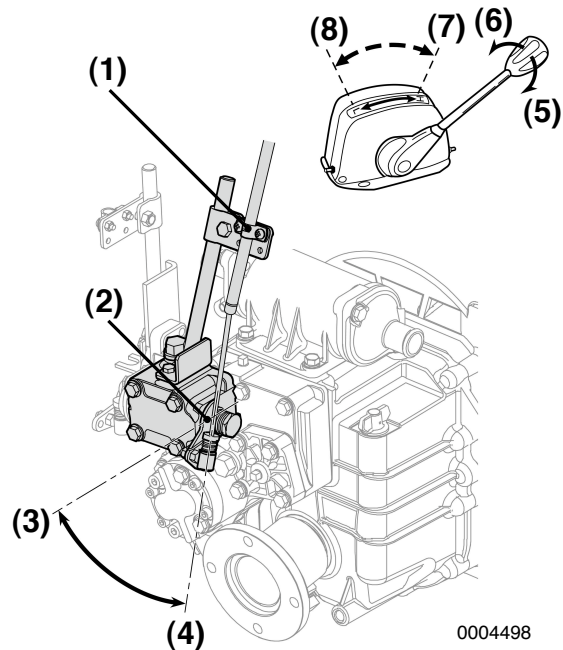

Figure 3
2. Reduce the speed by moving the trolling handle from high speed (H) (Figure 3, (4)) to low speed (L) (Figure 3, (3)). Adjust the speed to the desired rate and secure the trolling handle in place.
3. Before returning to normal operation, be sure to put the trolling handle in high speed (H) position.